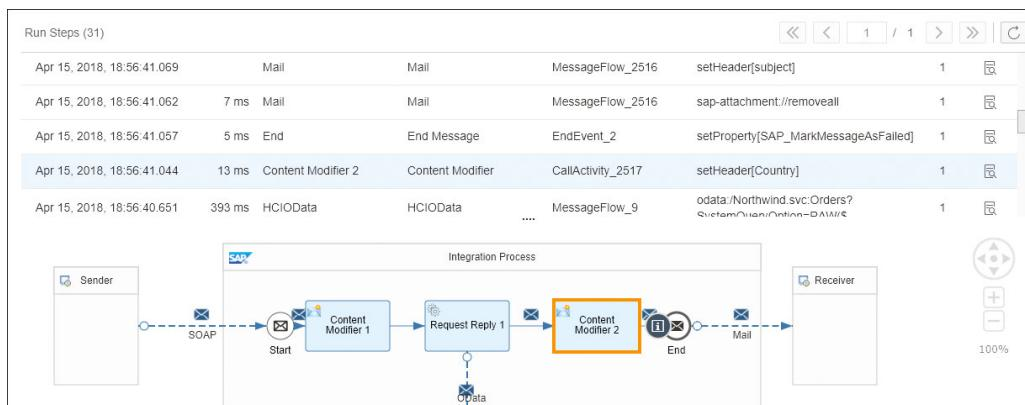

Figure 6.17 The Monitoring Application Shows the Individual Steps during Message Processing
An overview of the message processing steps and the integration flow model appears below the list of steps (Figure 6.17).
5. Click on the entry for the second **Content Modifier**. The corresponding shape is highlighted in the integration flow model, as shown in Figure 6.17.
The message header fields (on top) and the message payload (at the bottom) are shown. Figure 6.18 shows the section with the message header for the selected step shown in Figure 6.17.
2. Notice the overview with the integration flow model shown earlier in Figure 6.17.